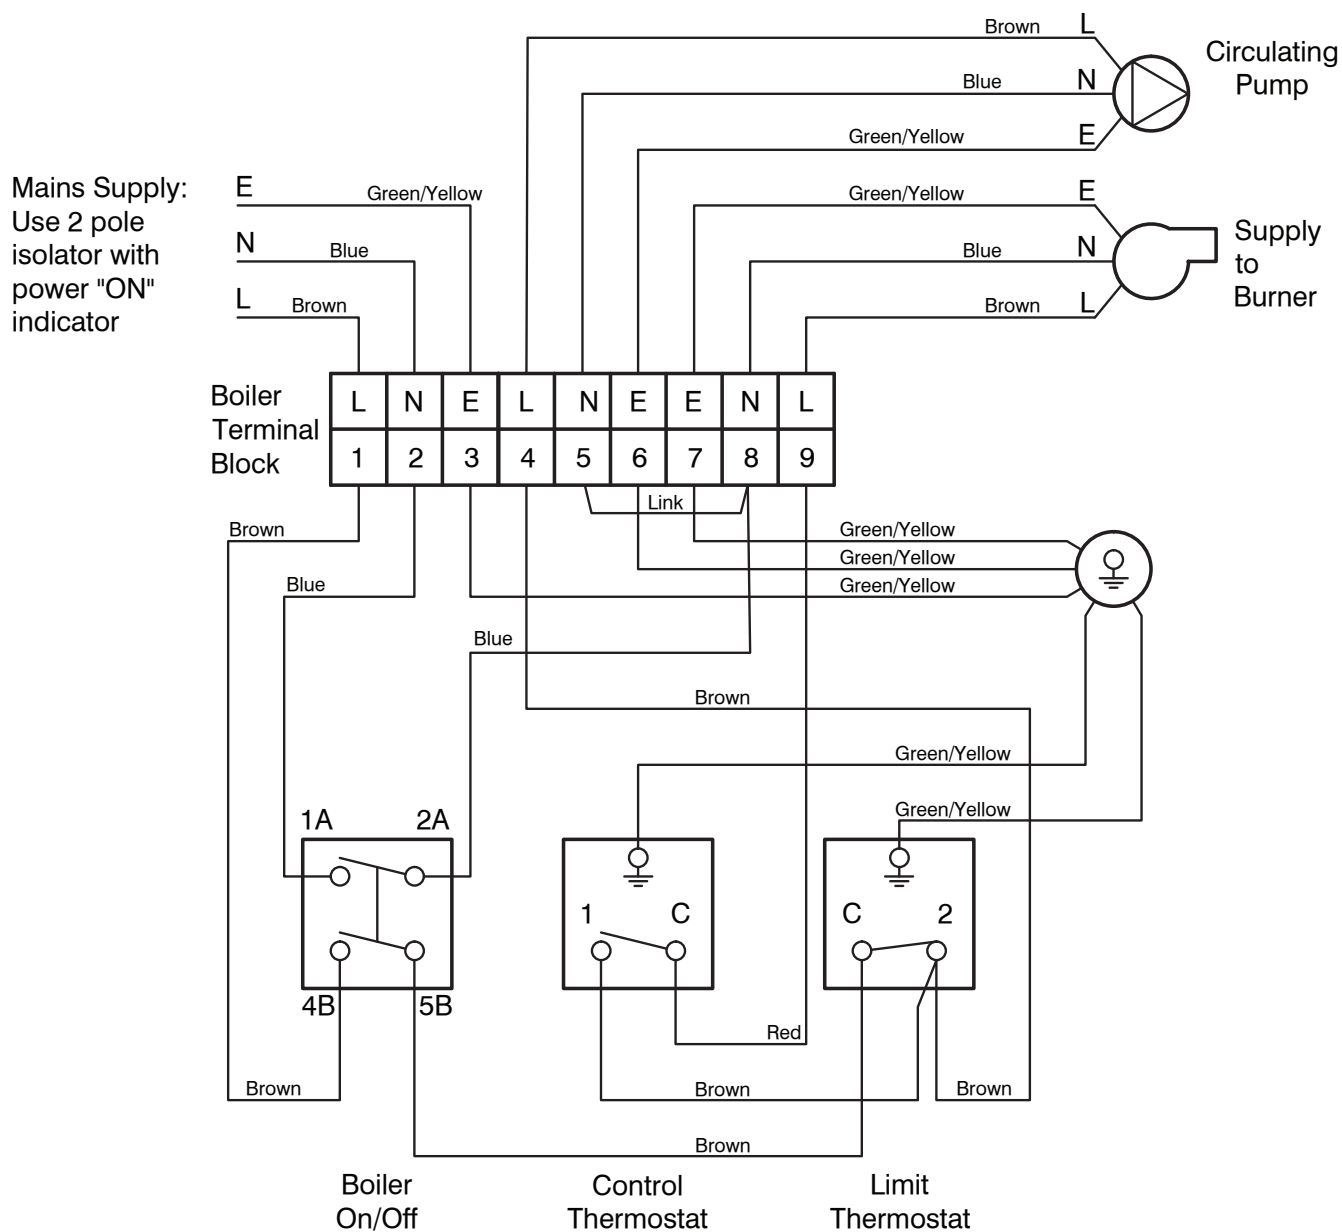

Figure 8-1: Control Panel wiring diagram
Refer to Figure 8-1 for typical control system wiring diagrams for all models.
Refer to Figure 8-1 for typical control system wiring diagrams.
3. Make the remaining required connections to the control panel, as detailed in Figure 8-1.
Refer to Figure 8-1 (as appropriate) for connection details.